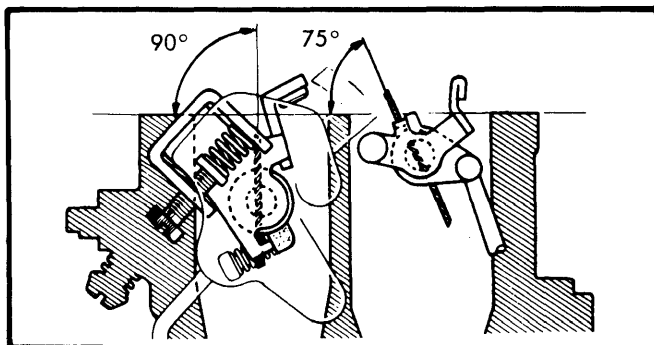

Fig. 5 Adjusting Primary and Secondary Throttle Valves
2) With primary throttle valve fully open, open secondary throttle valve. Insert angle gauge. Adjust secondary throttle valve angle to  $75^\circ$  (fully open) by bending throttle lever stopper. See Fig. 5.